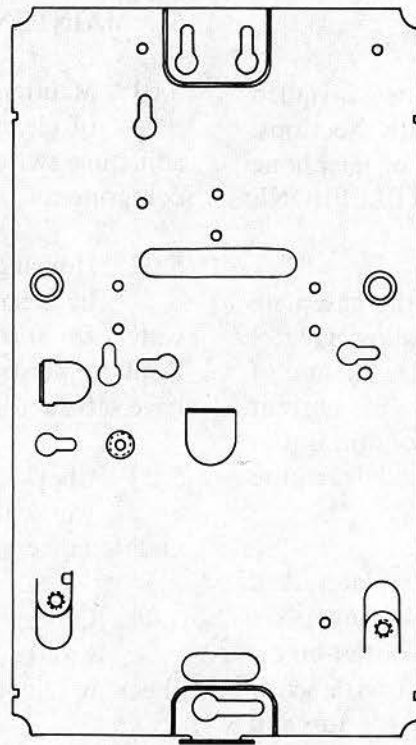

Fig. 13 — Present Production Baseplate (Wall Telephone)
4.02 Several holes are provided in the baseplate of the wall telephone set to allow greater flexibility in mounting and to minimize the use of a backboard (Fig. 13). Baseplates of current manufacture may be mounted on a conduit outlet box. Baseplates of early production models require modification.